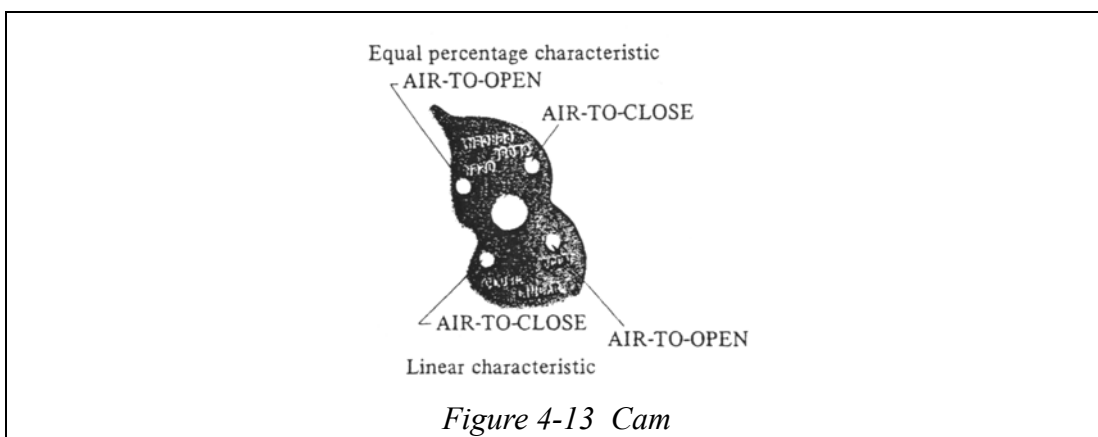

Figure 4-13 Cam
- c) Select a setting hole of the cam corresponding to the actuator action and cam characteristics by referring to Figure 4-13 and set the selected hole onto the boss of the indicator.